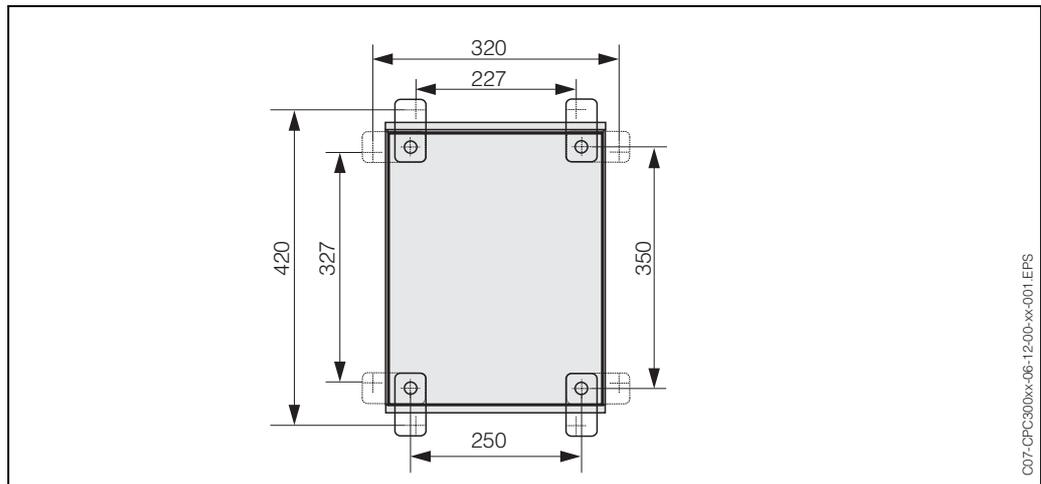

fig. 8: Mounting the control unit CPG 300 using wall mounting kit (contained in scope of delivery)
1. Prepare drill holes acc. to fig. 8.